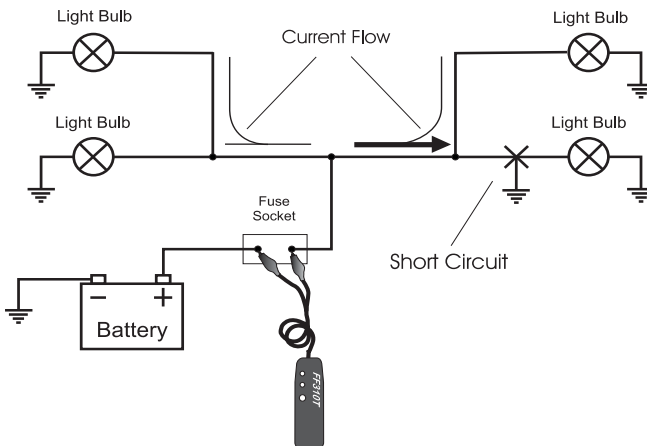

Fig. 10 - Schematic of a single circuit with multiples loads
- When tracing circuits connected to, or which are powering multiple loads and/or branches (See Fig. 10), and when these circuits are active or live, the bulk of the current injected into the circuit by the FF310T will be directed to the shorted branch of the circuit. However smaller amounts of current (or stray currents) will flow to the other branches as long these provide a path to ground (i.e. close the circuit).
- The simplest and most effective way to deal with these cases, is to disconnect or remove all the loads from the circuit being traced (i.e. removing light bulbs in example shown in Fig. 10).